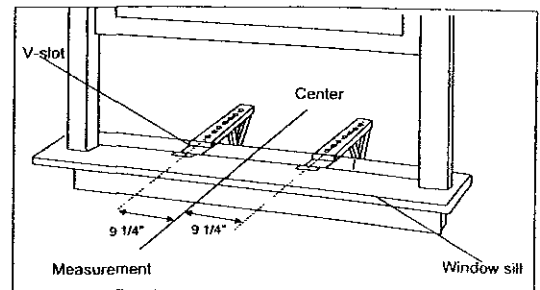
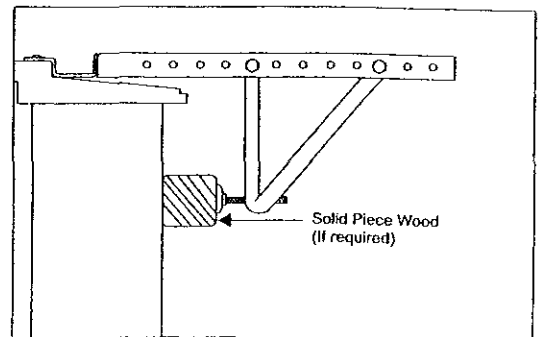

Fig 14
Fig 15
Two bolts per bracket. Secure with the (2) **1/4"** lock washers and (2) **1/4"** nuts. **DO NOT** immediately tighten these bolts as it may be necessary to adjust the depth of the **bracket assembly**, depending on the depth of your window sill. See (Fig 14) Install the two **leveling screws** into the 90 support brackets. Test the bracket assembly in the window before cabinet installation. If the leveling screws are distanced too far away from the wall to provide stability, it may be necessary for you to shim this area with a solid piece of wood. See (Fig 15)
B Measure the inside window sill width and find the center as shown in (Fig 14) Measure 9 1/4" from the center line on each side and mark these points. Align the **V-slot** in each bracket on these marks and mount the brackets to the sill using **3/4" screws** provided. Brackets should be perpendicular to the inside window sill. See (Fig 14)
Use a solid piece of wood to provide stability. This will be required when sills are extra deep. See (Fig 15)